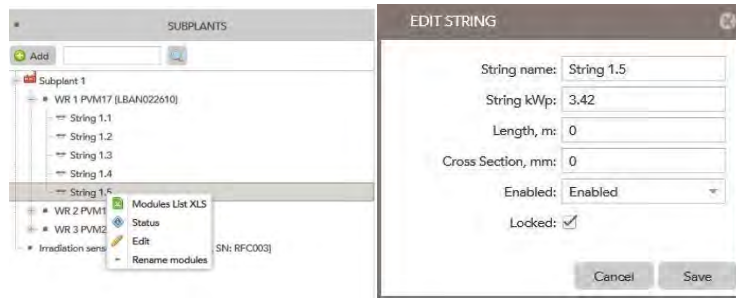

Figure 48: Deactivating unused connections of the inverter.
1. In the column "Devices/Subplants", you can see the inverters which were adjusted by you. Click the „+“ to see the individual strings of the inverter. If string connections of the inverter are not occupied, the strings must be deactivated. Go to the affected string via right-click and click „Edit“ (Figure 48 left). Change the setting „Enabled“ in the drop-down menu to „Disabled“ in the newly opened window (Figure 48 right) and click „Save“. Deactivated strings are displayed gray.